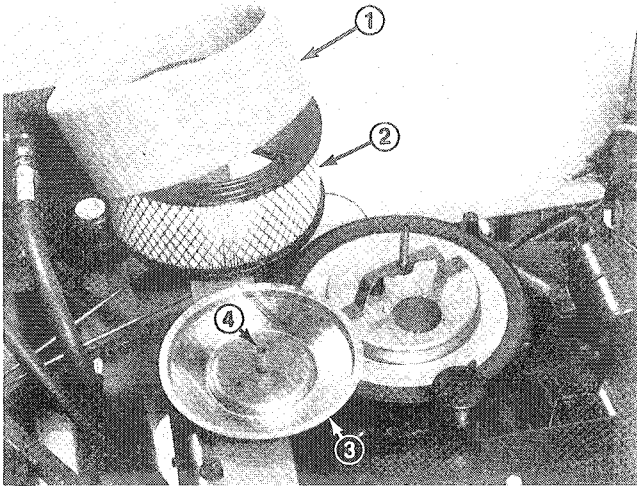

Figure 22
2. Remove foam pre-cleaner by sliding it off the paper element (Fig. 22).
5. Reinstall element with pre-cleaner, air cleaner element cover, element cover seal, air cleaner cover and wing nut (Fig. 22).